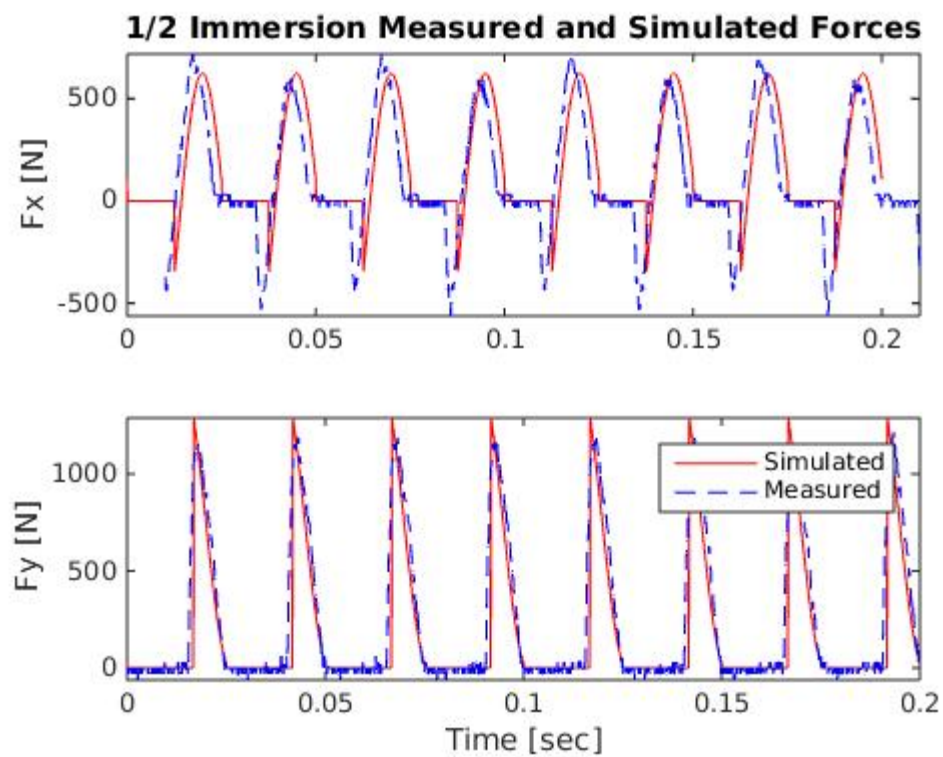

Figure 2: Half Immersion Measured and Simulated Forces
- Figure 2 is the graph of F_x and F_y of the half immersion simulation